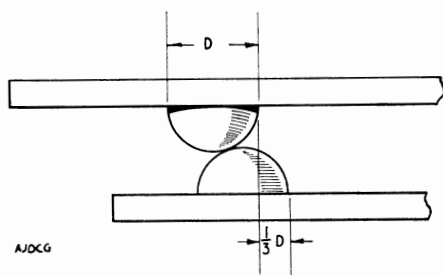

FIG. 9
17. Interrupters.—The individual springs of the interrupters should lie flat on, and be securely fixed to, the mounting block. The contacts should not be out of alignment by more than $\frac{1}{3}$ rd of their diameter (see Fig. 9). The contact pressure as measured at the top